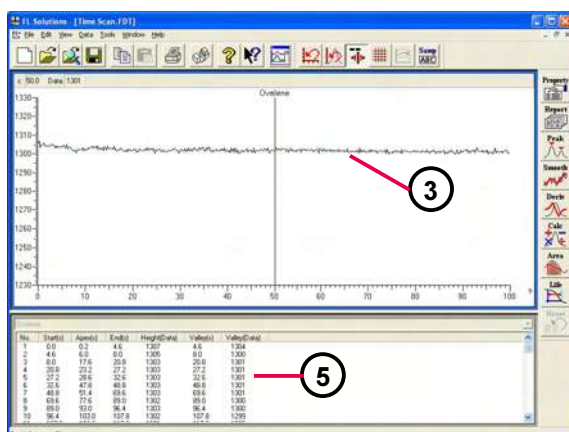

Fig. 1-37 Time Scan (peak table)
- Both spectrum (③) and peak table (⑤) can be displayed as shown in Fig. 1-37.